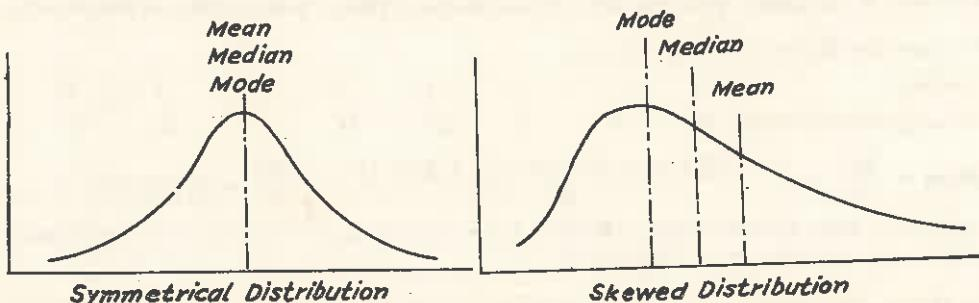

Fig. 8.9. Mean, Median and Mode.
- Most frequency distributions exhibit a *Central tendency i.e.* a shape such that the bulk of the observations pile up in the area between the two extremes, (Fig. 8.9). The measure of this central tendency is one of the two most fundamental measures in all statistical analysis.